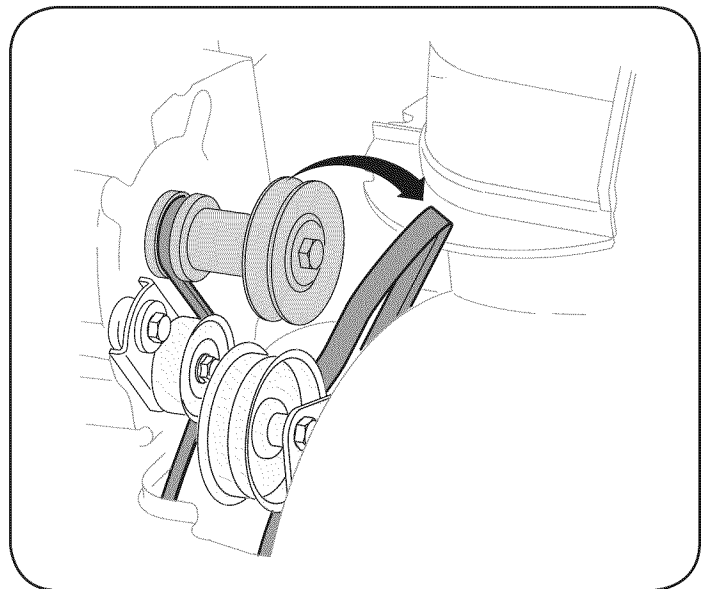

Figure 32
4. Roll the auger belt off the engine pulley. See Figure 32.